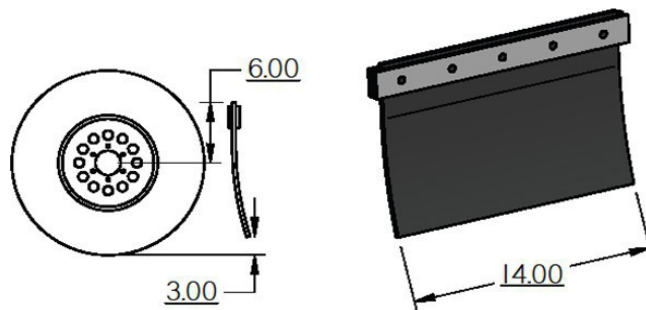

Figure 11 MUD FLAPPTR-8 BUMPERS
- Mud flaps are required and must extend from 6 inches above center line of rear axle to 3 inches from ground at ride height. See diagram on FIG 11.